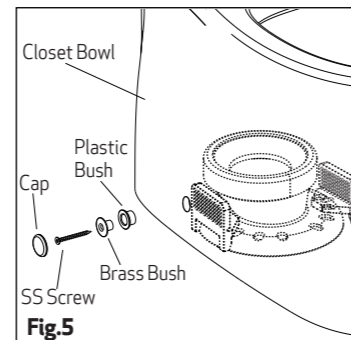
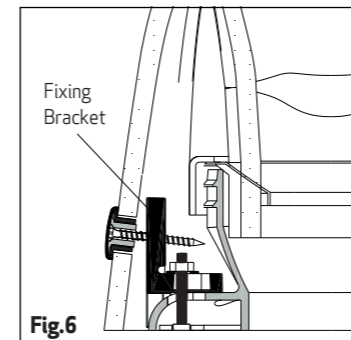

Fig.5
Fig.6
6. Insert the plastic and brass bushings into the bowl fixing holes as shown in Fig.5. Secure the bushings through the holes in fixing bracket with SS screws as shown in Fig. 6. Cover the holes with caps.